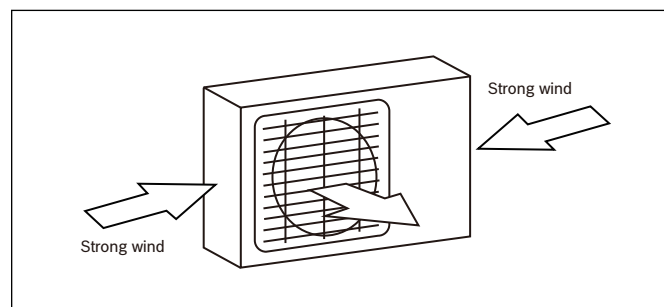

Figure 18
- ▶ If the unit is exposed to heavy wind: Install unit so that air outlet fan is at a 90° angle to the direction of the wind. If needed, build a barrier in front of the unit to protect it from extremely heavy winds. See Figures 18 and 19.